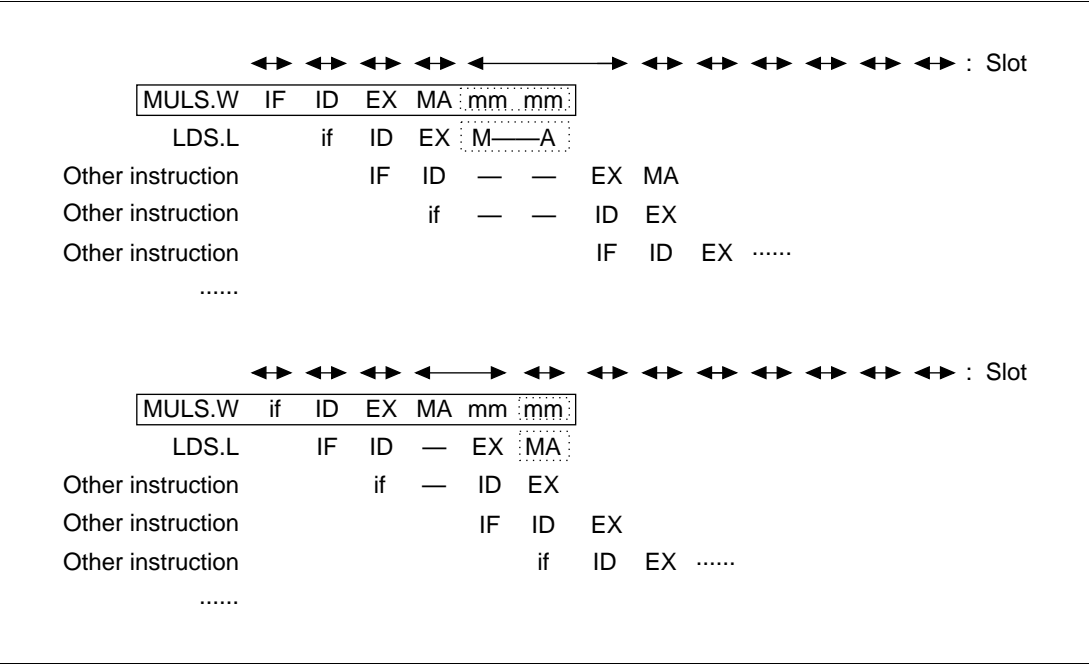

Figure 7.71 LDS.L (Memory) Instruction Immediately After a MULS.W Instruction
- When the MA of the LDS instruction contends with the operating multiplier (mm), the MA is extended until the mm ends (the M—A shown in the dotted line box in figure 7.71) to create a single slot. The MA of the LDS contends with IF. Figure 7.71 illustrates how this occurs, assuming MA and IF contention.